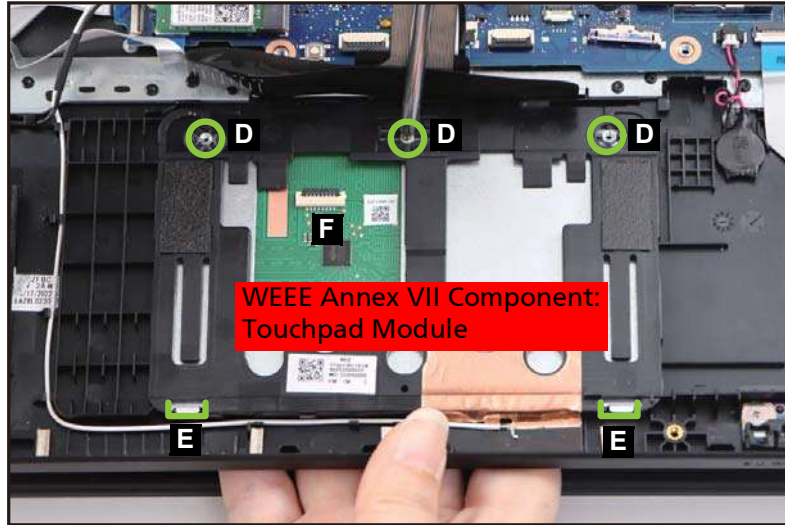

Figure 3-14. Touchpad Module Removal
5. Using the screwdriver, push the guide pins (D) firmly to release them from the top assembly (Figure 3-14).
6. Slide the touchpad module slightly to disengage it from the bottom latches (E), and then remove the touchpad module (F) from the top assembly (Figure 3-14).